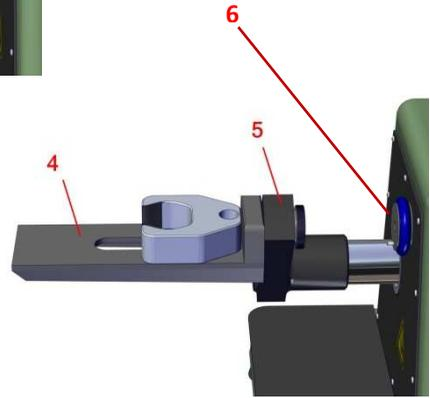

Figure 5.2.3
2. Gently slide the threaded boss of tensile accessory base onto the moveable clamp arm (Figure 5.2.2, Item 5) of the strength machine. Replace the knurled screw and hand tighten to attached the cold tensile base to the moveable clamp arm (Figure 5.2.2 and Figure 5.2.3).
(See Figure 5.2.3 for Item Description)